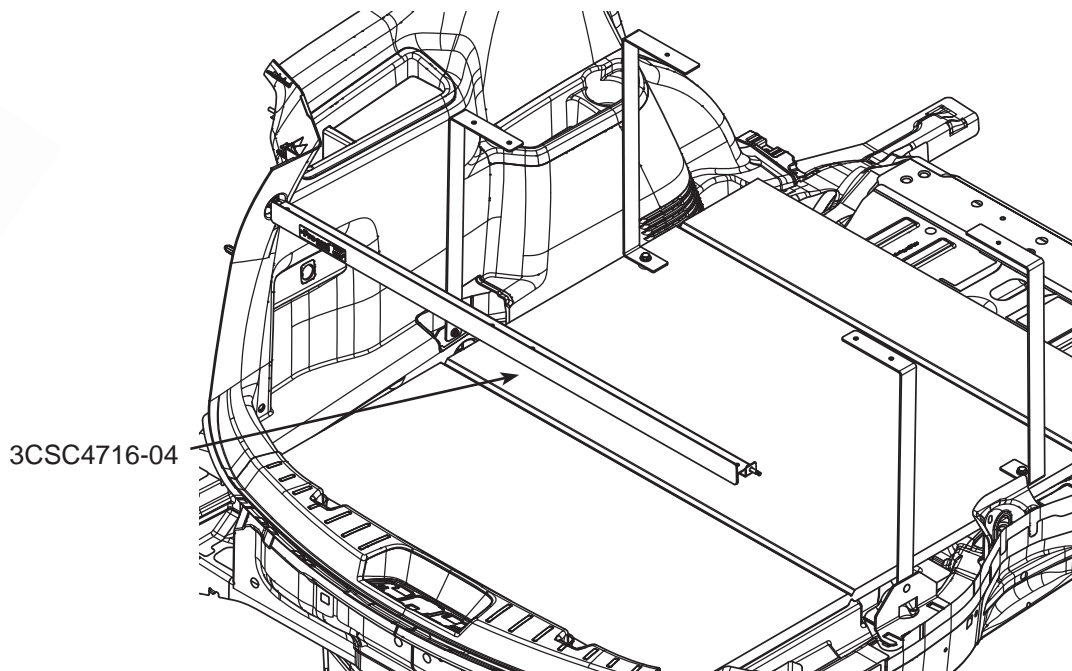

Figure 3
- D. Now place the rear cross member 3CSC4716-04 into place over the tops of brackets 3CSC4716-03, making sure that the holes on each side of the parts align with one another. See Figure 3.